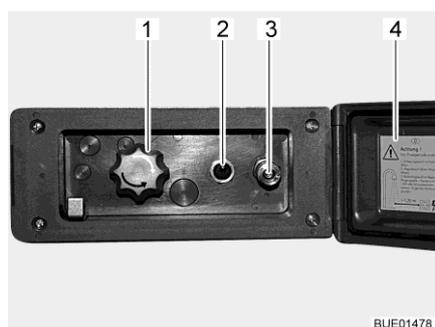

Fig. 169 External shower connection point
- Unlock and open the cover (Fig. 169,4).
- Attach hose of the external shower to the quick closure (Fig. 169,3).
- Switch on the water pump using the switch (Fig. 169,2).
- Adjust the water temperature with the rotary knob (Fig. 169,1) as desired.
- Switch off the water pump using the switch (Fig. 169,2).
- Close the cover (Fig. 169,4) and lock with key.
- Turn knob (Fig. 169,1) to the central position.